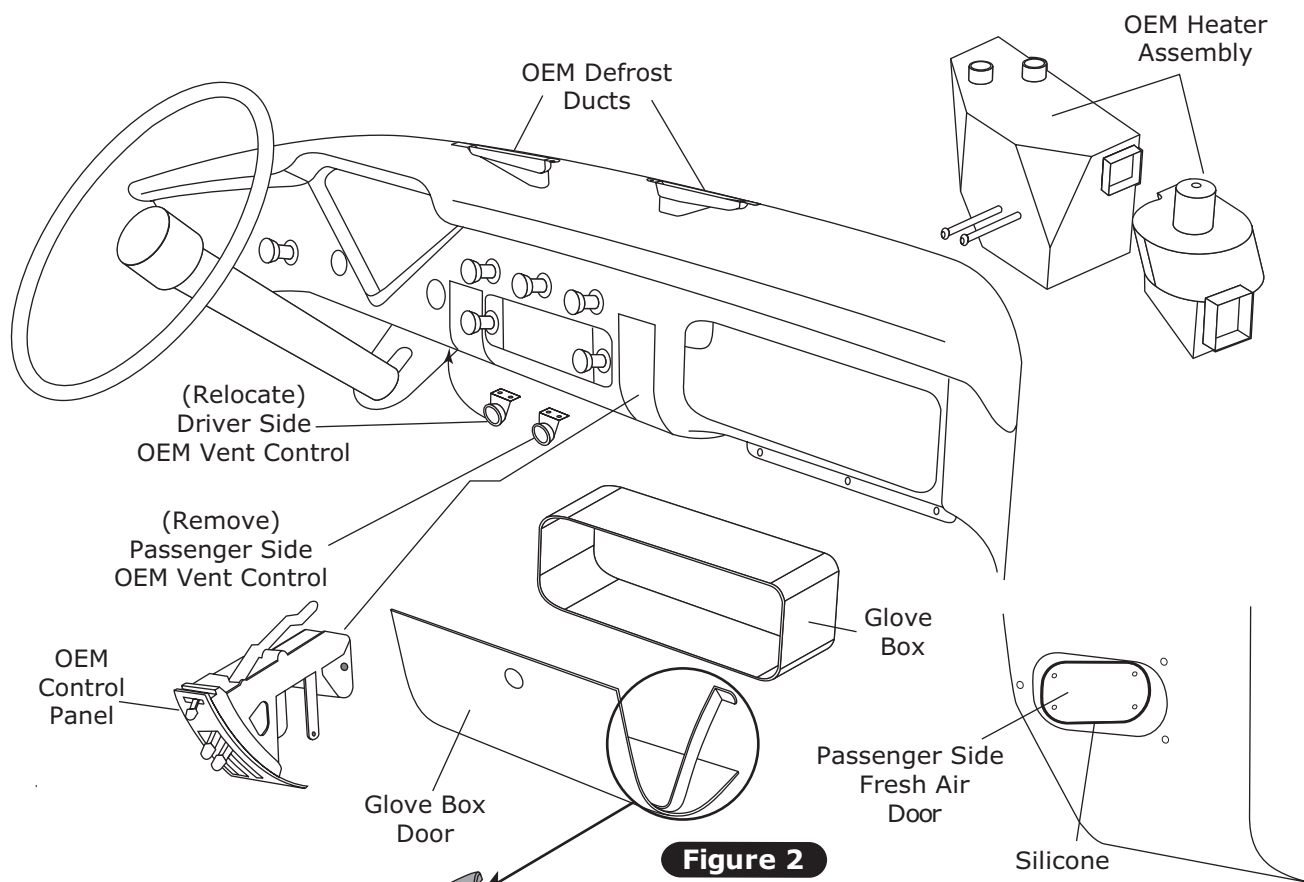

Figure 2b
4. Remove passenger side OEM vent control (discard), and close and seal kick panel vent with silicone (See Figure 2b, below).